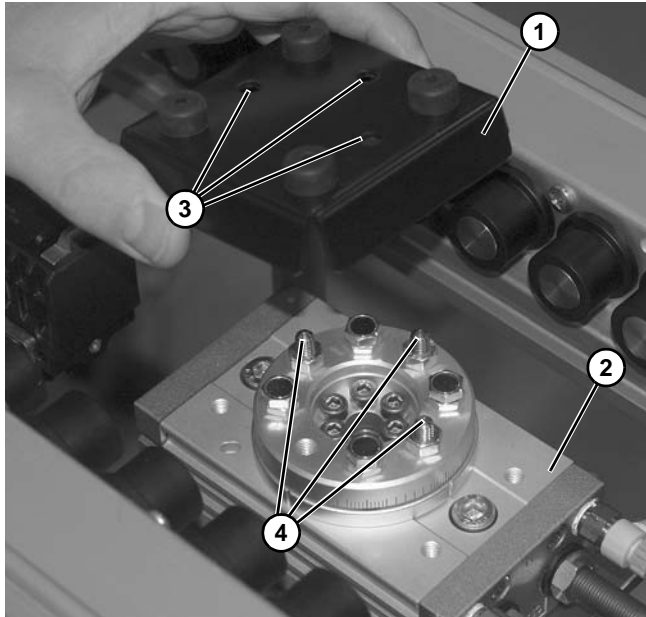
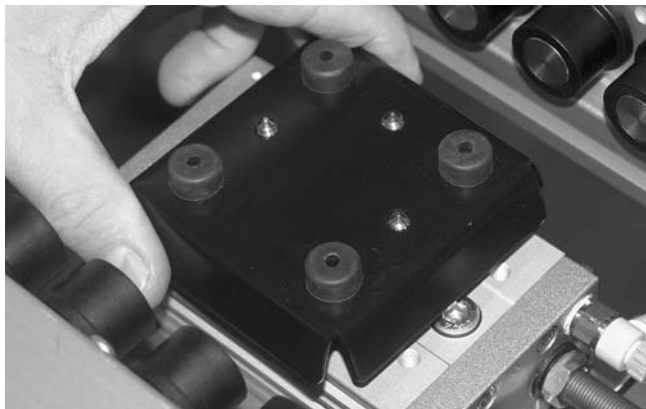

Figure 121
Figure 122
5. Remove lift and rotate plate (**Figure 121, item 1**) on lift and rotate assembly (**Figure 121, item 2**). Make note that the three holes (**Figure 121, item 3**) in plate line up with three studs (**Figure 121, item 4**) on rotation plate (See **Figure 122**.)